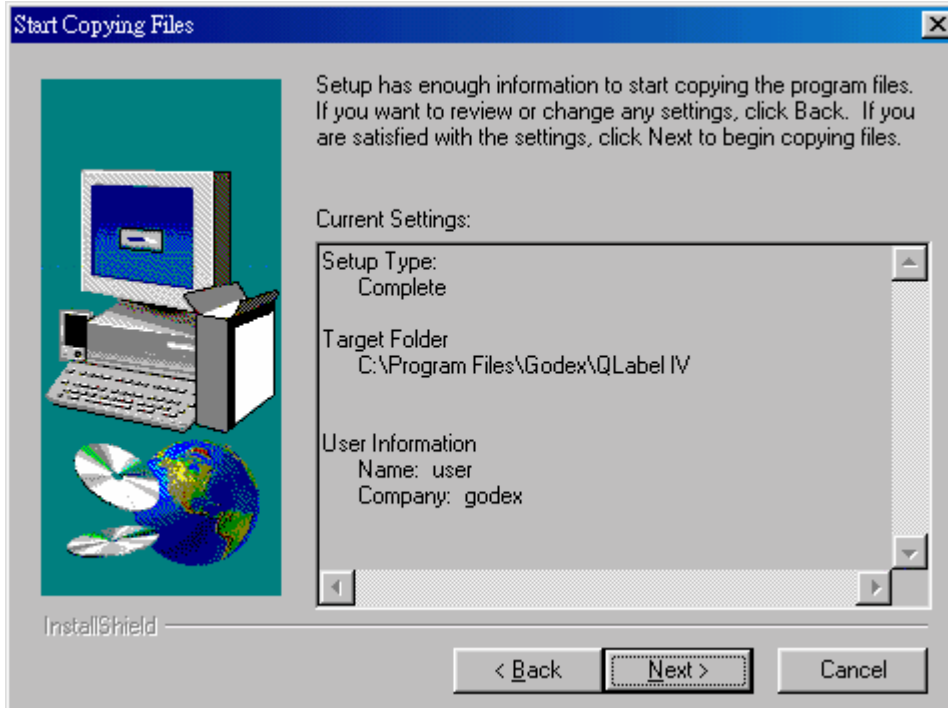

Fig.2.4
5. The Start Copying Files dialog box shows all of your setting. Please check these items. (refer to Fig.2.4)